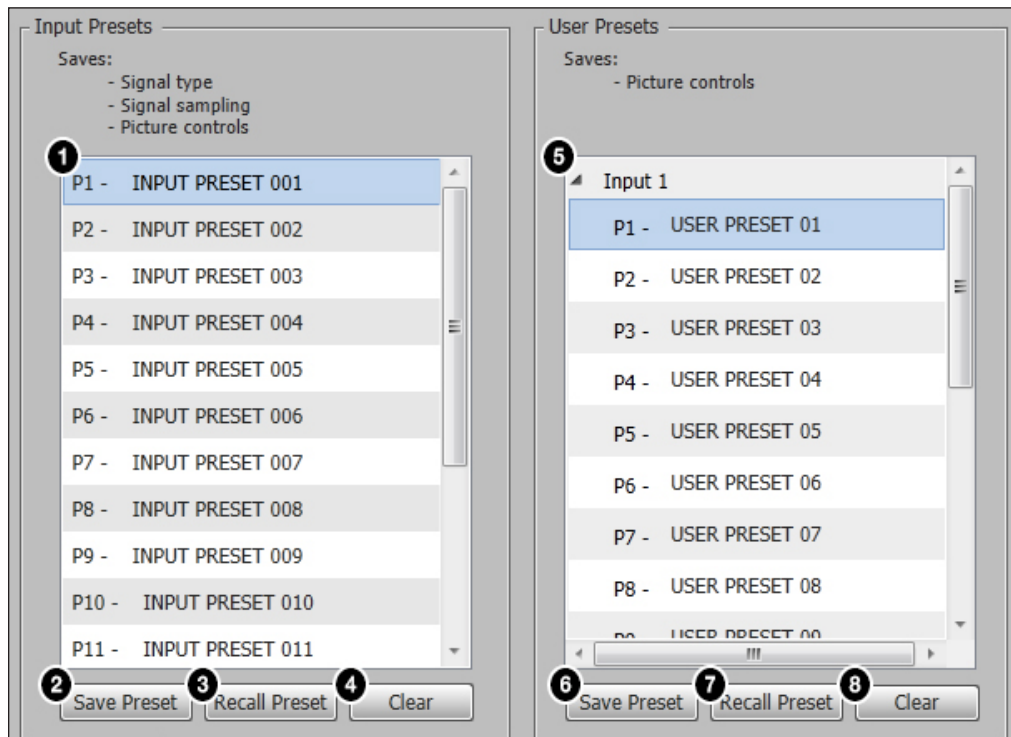

Figure 50. Input and User Presets Panels
1. From the Input Presets list (see figure 50, **1** on page 67), select the desired preset.